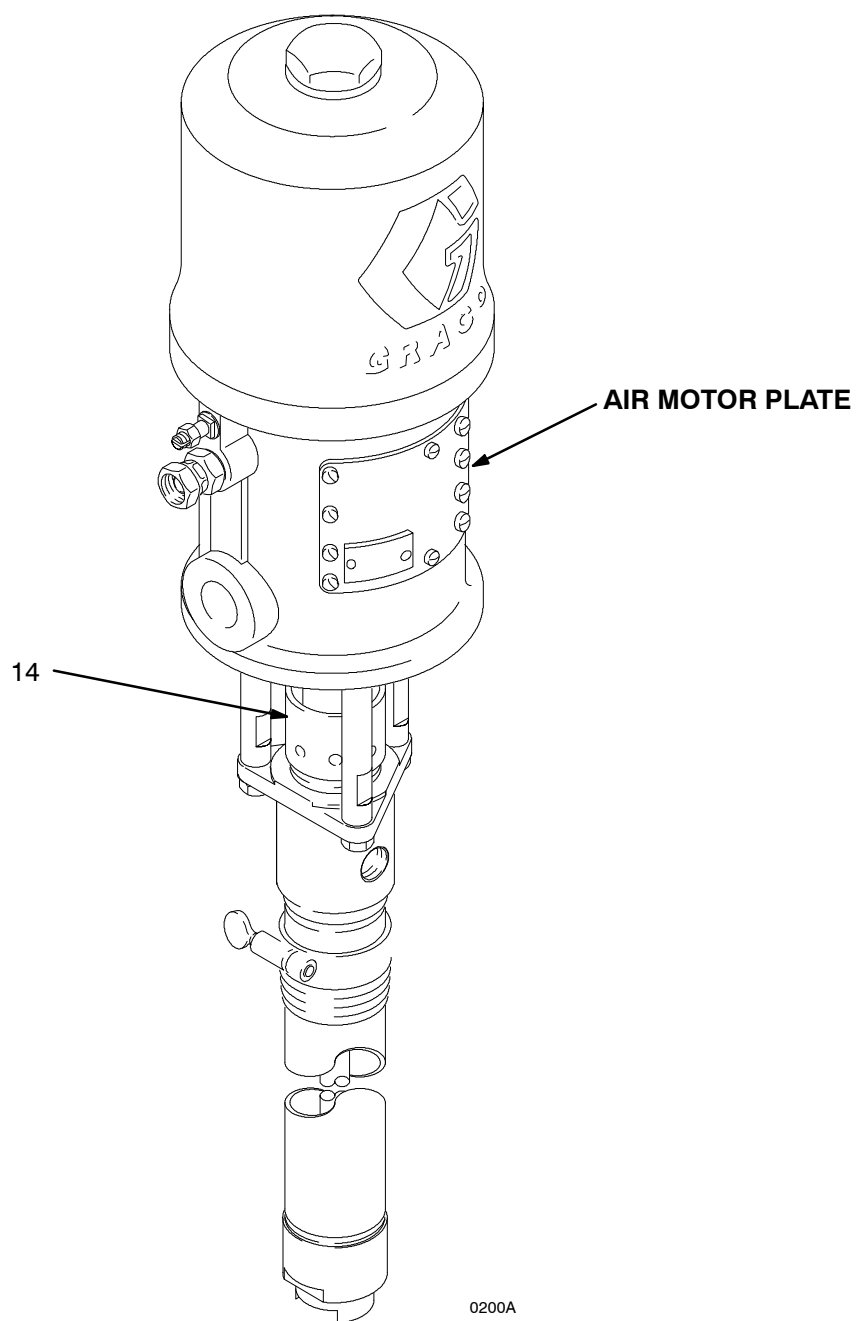

Fig. 2
Moving parts can pinch or amputate your fingers or other body parts. When air is supplied to the motor, the air motor piston (located behind the air motor plates) moves. See Fig. 2. Therefore, never operate the pump with the air motor plates removed.
Keep the packing nut/wet-cup (14) filled with Graco Throat Seal Liquid (TSL) or compatible solvent, to help prolong the packing life. Adjust the packing nut weekly so it is just tight enough to prevent leakage; do not overtighten. See Fig. 2. Always **relieve the pressure** before adjusting the packing nut.